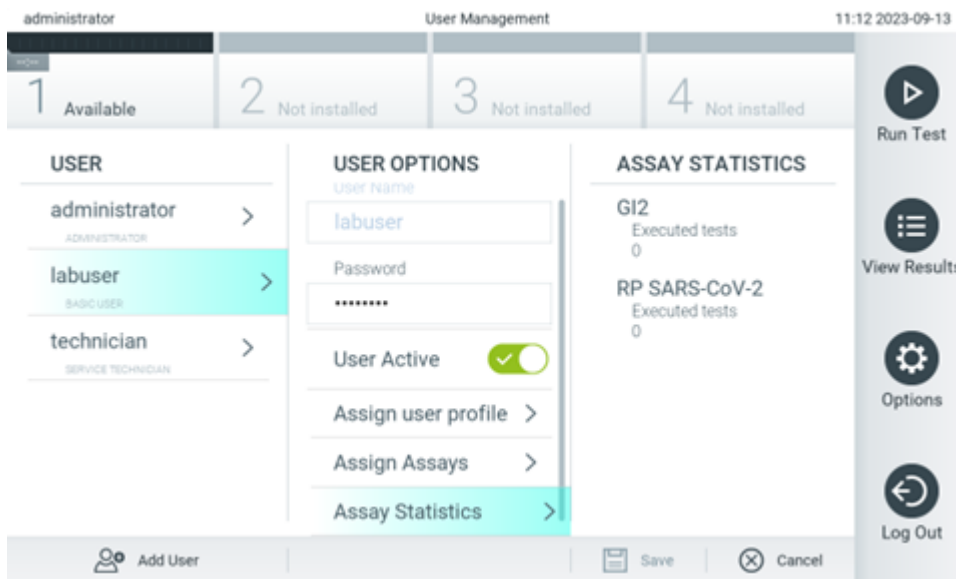

Figure 54. Viewing assay statistics.
- **Assay Statistics:** Shows the number of times an assay was run by the selected user (Figure 54).